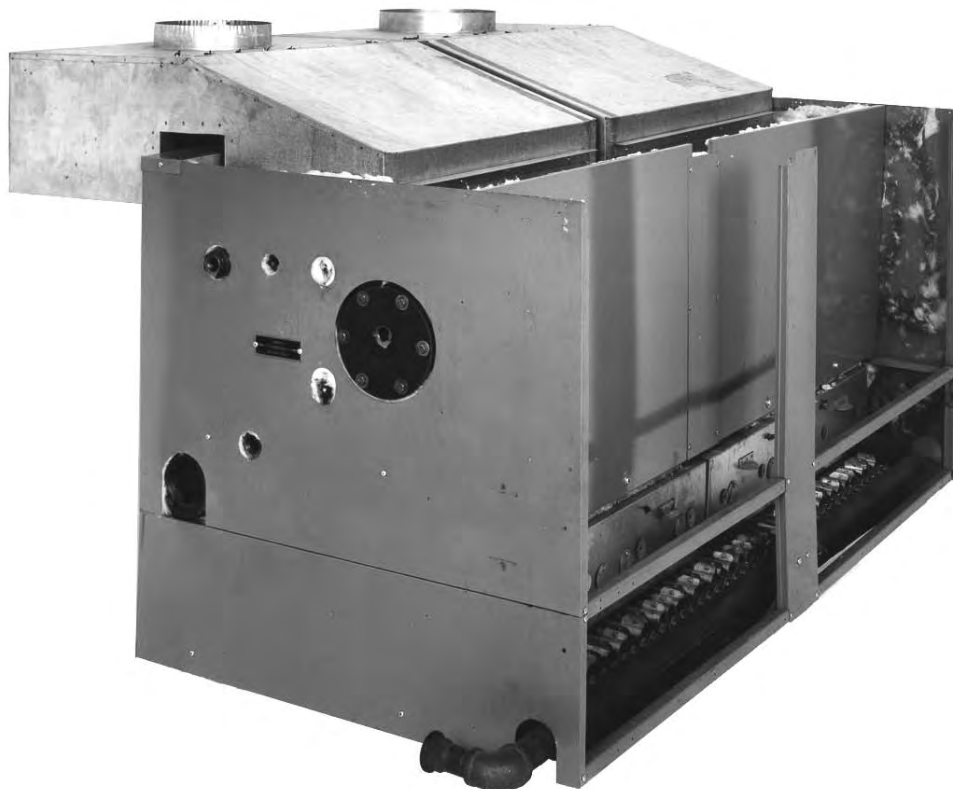

FIG. 17
2. Attach Lower Left and Lower Right Jacket End Panels to their respective brackets using #10-32 x $\frac{1}{2}$ " self-tapping screws, see Fig. 17.
4. Place Upper Right End Panel on top of Lower Right End Panel with lip on bottom of Upper Panel positioned behind Lower Panel. Secure to section using #10-32 x $\frac{1}{2}$ " self-tapping screws. Attach Upper Left End Panel in a similar manner, see Fig. 17.